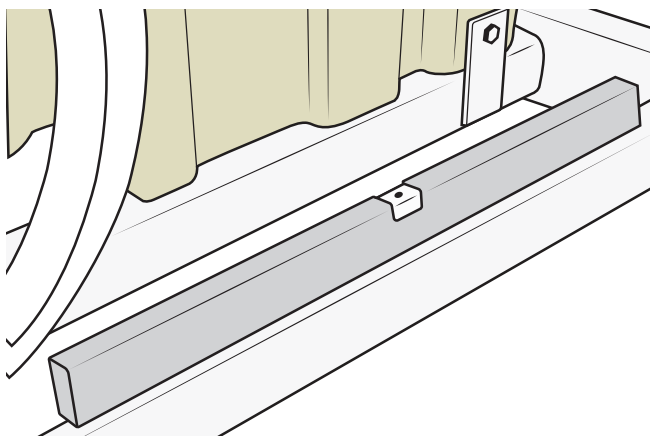

Figure 109
3. Make sure the bathtub is horizontal. Check the level with the spirit-level along the length of the bathtub. See Figure 109.